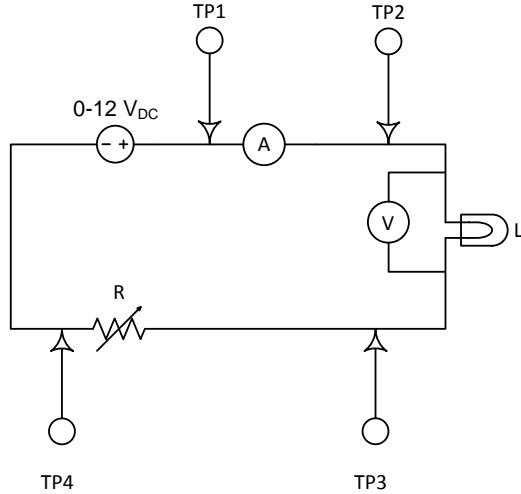

Figure 68
- Construct the circuit on a breadboard as shown in Figure 68.